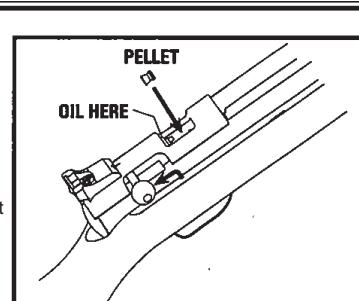

Fig. 3
- Open the bolt by pushing the bolt handle up and pulling it all the way back until you hear two clicks. (Fig. 3)
- With the bolt in the rearward position, place one pellet, nose first, into the loading port (breech) (Fig. 3). This is a single shot pellet airgun. Load no more than one pellet at a time.
- Open the bolt. (See Section 4.1 - Fig. 3)
- Your airgun will maintain proper function longer if you place one drop of oil on the bolt o-ring every 250 shots (Fig. 3).